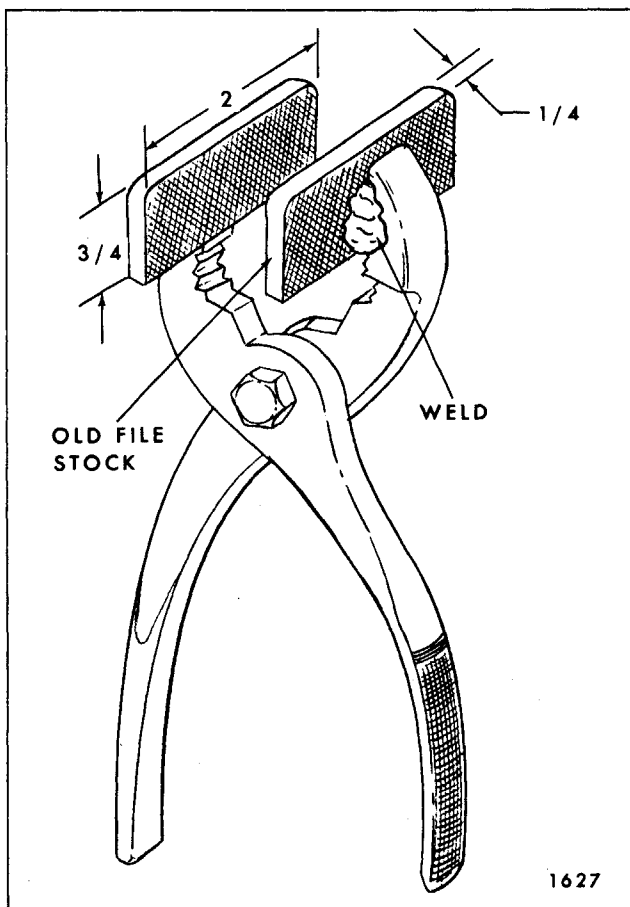

Fig. 8-35-Fabric Roof Cover Pliers
1. Where possible, install new cover at room temperature (approximately 72°F or 22°C) to permit easier fitting and removing of wrinkles from new cover assembly. Fabric roof cover pliers (Fig. 8-35) will aid in removing wrinkles.